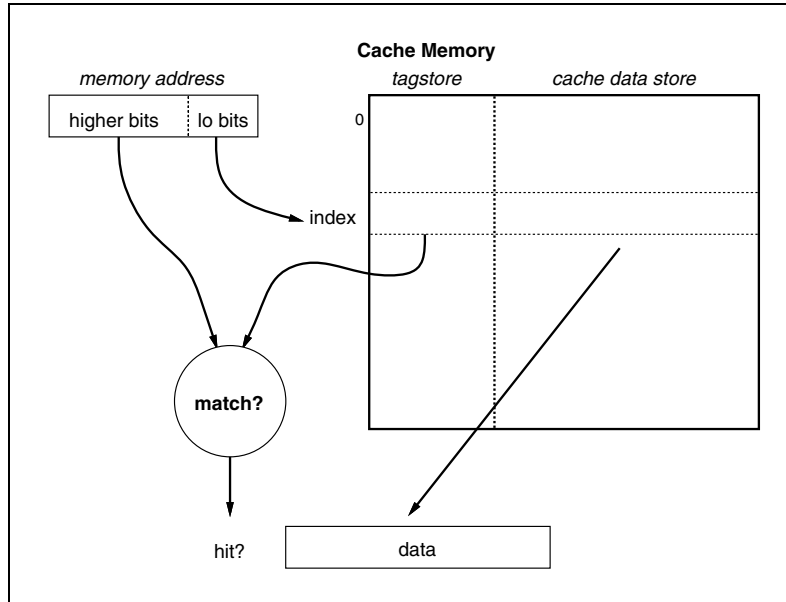

Figure 1.1 Direct Mapped Cache
- ◆ *Direct mapped:* Each physical address has only one location in each RC30xx cache where it may reside. At each cache index there is only one data item stored – this will be just one word in the D-cache but is usually a 4-word line for the I-cache (see Figure 1.1). The tag is kept next to the data, which stores the memory address for which this data is a copy.